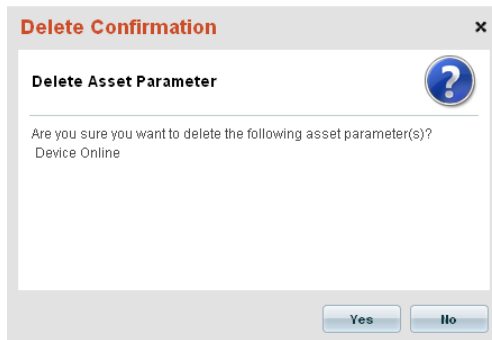

FIG. 261 Delete Confirmation dialog - Delete Asset Parameter
2. The program will prompt you to verify this action before the parameter is deleted from the system (FIG. 261):